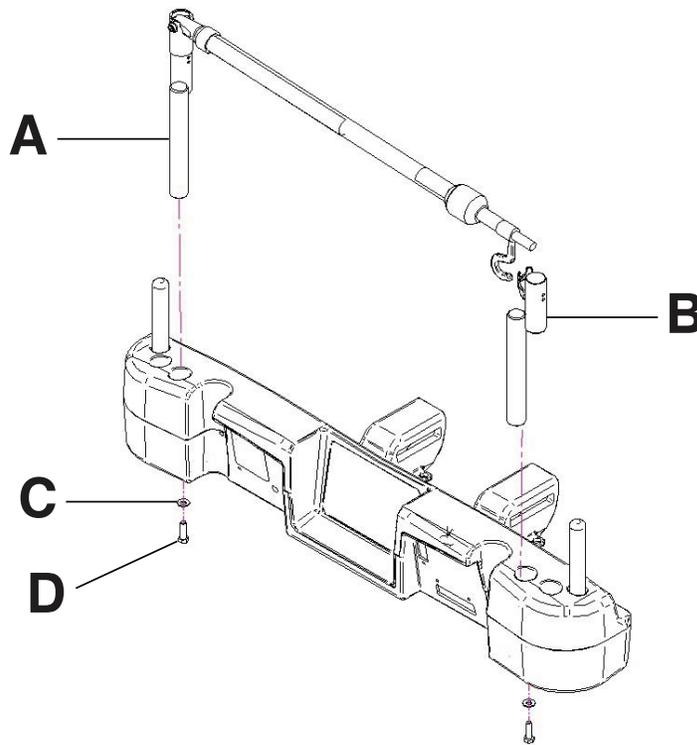

Figure 71: Single two stage IV pole (Left side shown)
1. Using a 3/8 in. drive ratchet and a 1/2 in. socket, install one washer (C) and one bolt (D) to secure the IV pole into the socket at the head end of the product (A) (Figure 71 on page 75).
2. Using a 3/8 in. drive ratchet and a 1/2 in. socket, install one washer (C) and one bolt (D) to secure the IV pole support into the socket at the head end of the product (B) (Figure 71 on page 75).